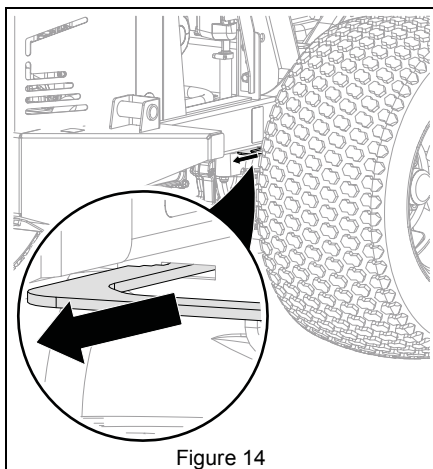

Figure 14
2. Pull both transaxle bypass levers out into bypass position. See Figure 14.